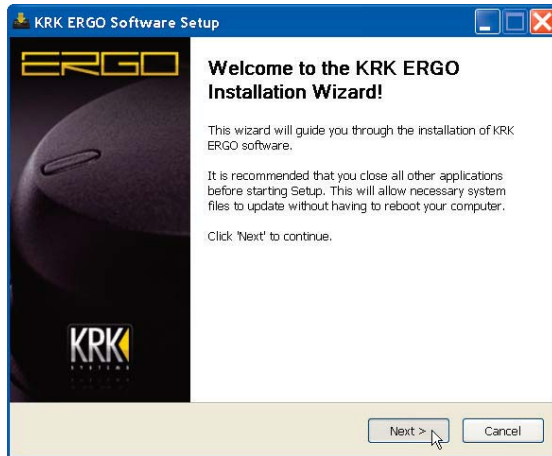

Figure 3.10
4. The *ERGO Installation Wizard* will start. Click **Next**. (Figure 3.10)